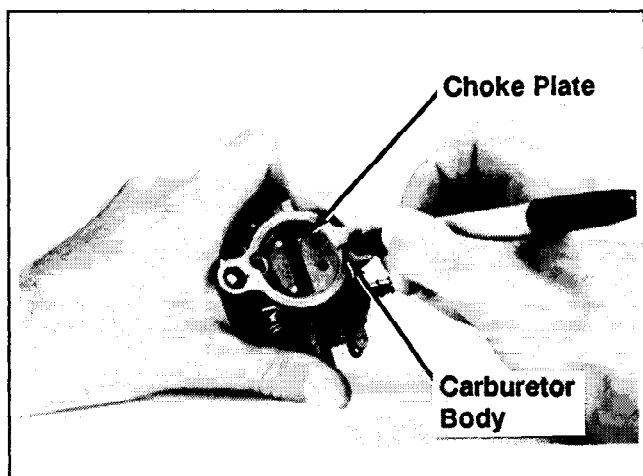

Figure 6-24. Marking Throttle Plate And Carburetor Body.
1. Because the edges of throttle plate are beveled, mark the throttle plate and carburetor body with a marking pen to ensure correct reassembly (refer to Figure 6-24). Also take note of the throttle plate position in bore, and the position of the throttle lever.